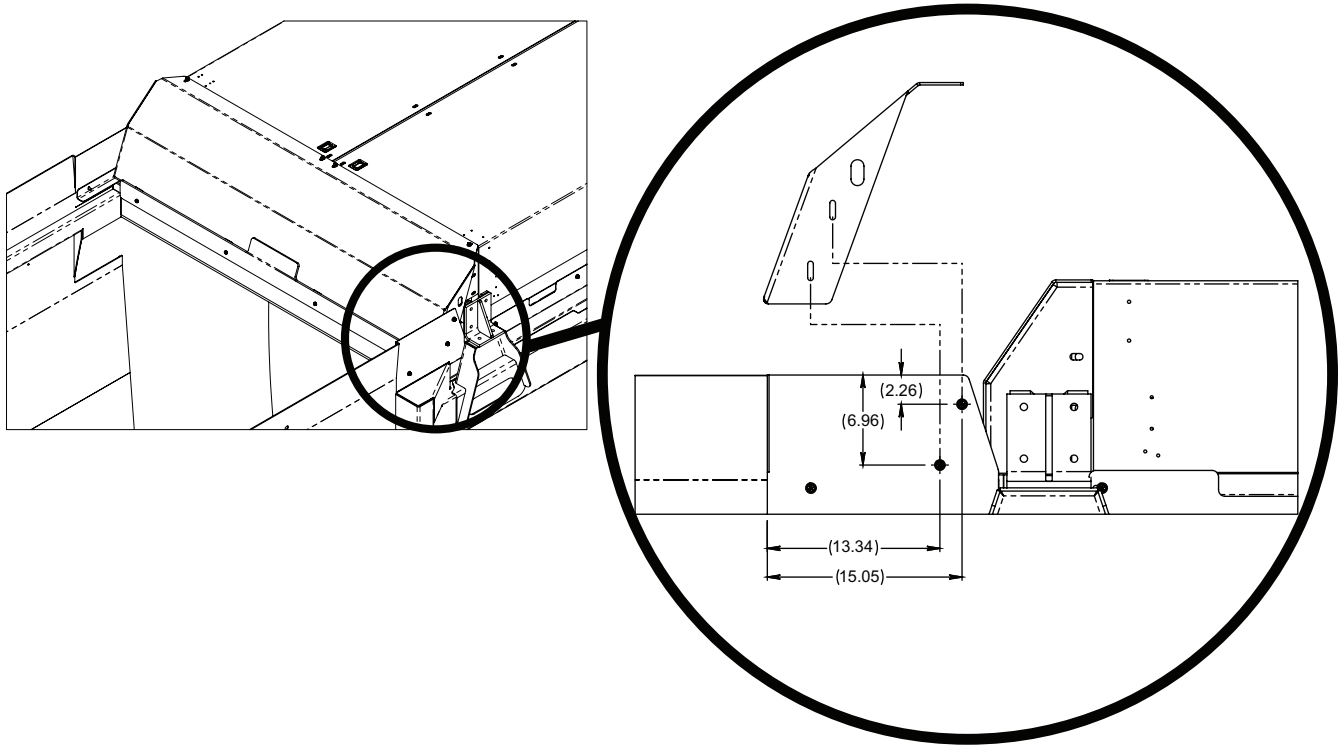

Figure 1
1. If desired, use the dimensions in Figure 1 as a secondary reference when determining where to mark and drill the new bolt holes to attach the deflector to the side windguards.
2. Use a machinist's marker to mark the dimensions as shown in Figure 1 to drill new bolt holes.